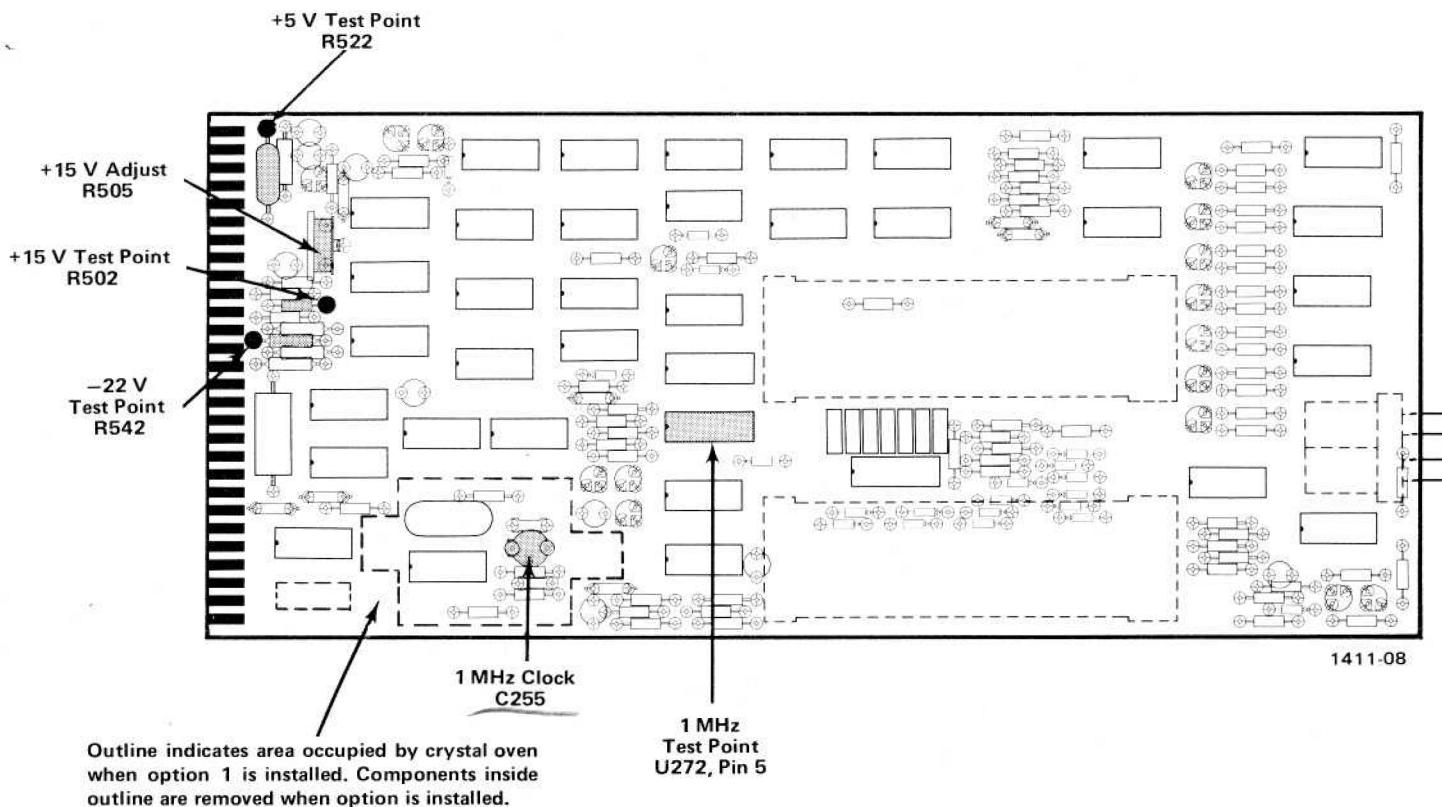

Fig. 3-1. Location of power supply test points and adjustment.
a. Connect the DM 501 LO test lead to the DC 503 chassis ground (function of C502 and R506). Connect the DM 501 HI test lead to the DC 503 +15 V test point (the junction of R502, C502, and R504, see Fig. 3-1).
- a. Connect a 10X probe from the vertical input of the test oscilloscope to pin 5 of U272 in the DC 503 (see Figs. 3-1 and 3-3).